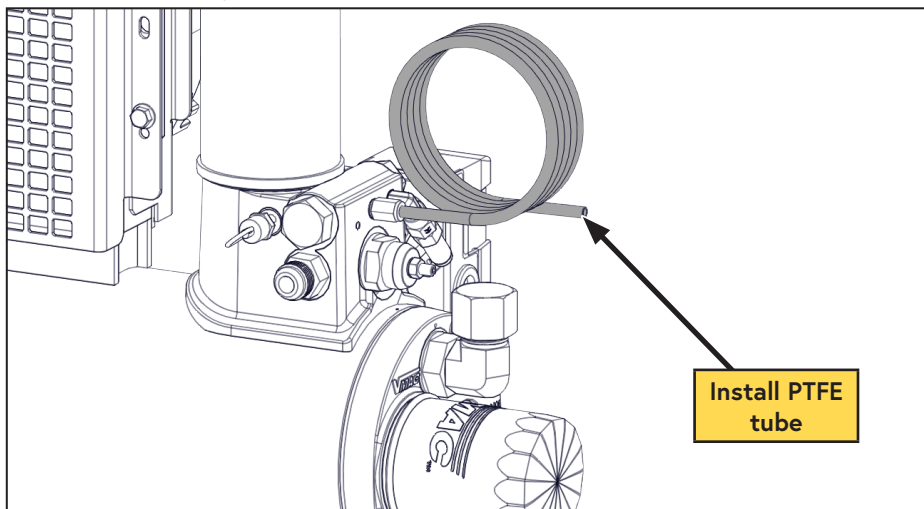

Figure 38 — Tubing Installation
- Connect the 1/4 in PTFE tube into the push-to-connect fitting installed in the WHASP Tank (Figure 38).